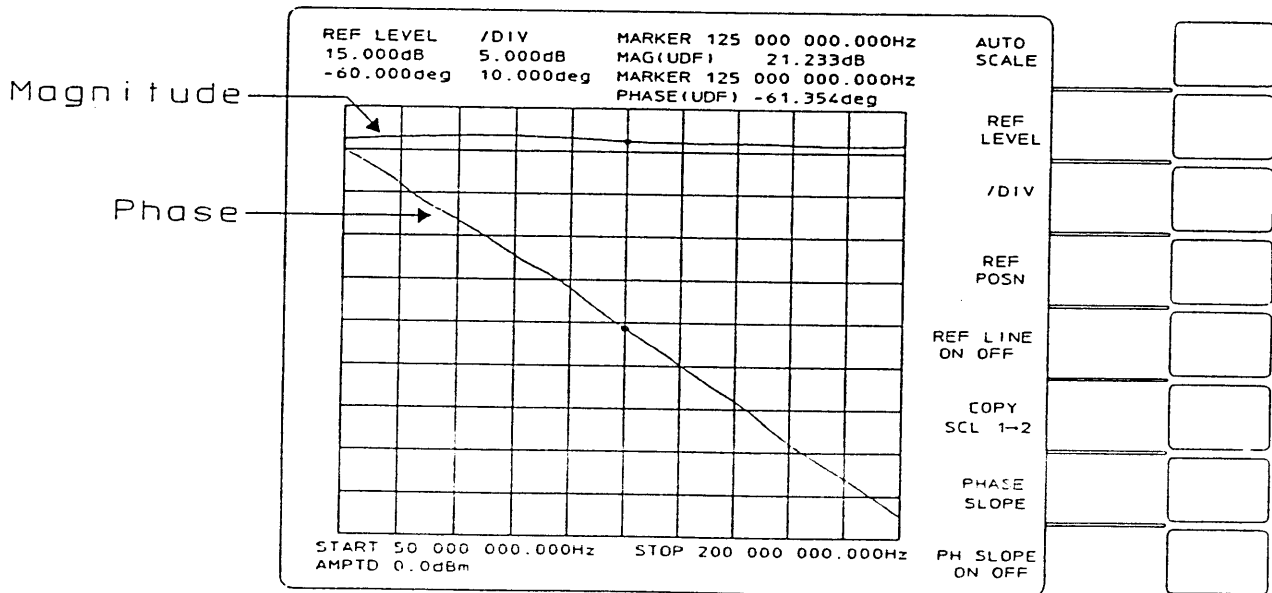

Figure 2-37. RF Amplifier Magnitude and Phase of S21
- AUTO SCALE** Softkey previously described. See figure 2-37.
The display as shown in figure 2-37 is the forward gain and phase of the amplifier under test. The markers may be used to make exact measurements at points along the traces and to make offset measurements.